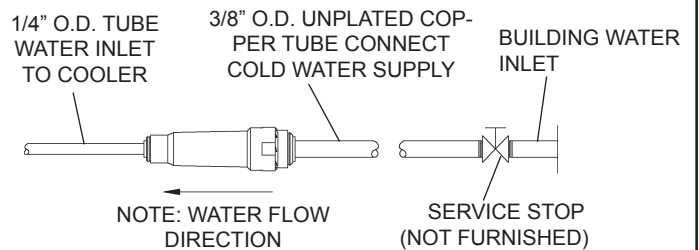

Figure 11 – Water Supply Connections
1. **Make** water supply connections (Fig. 11). Install a shut-off valve and union connection to building water supply (valve and union not provided). Turn on water supply and flush the line thoroughly.